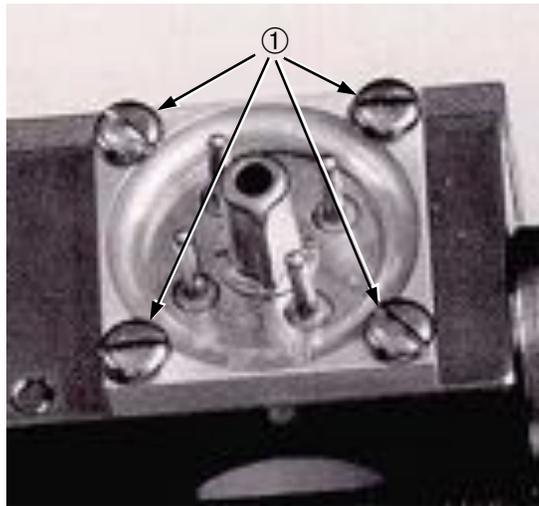

Figure 5-6 Button TC Assembly
1. Remove the 4 slotted screws ① that hold the button TC header (Figure 5-6).